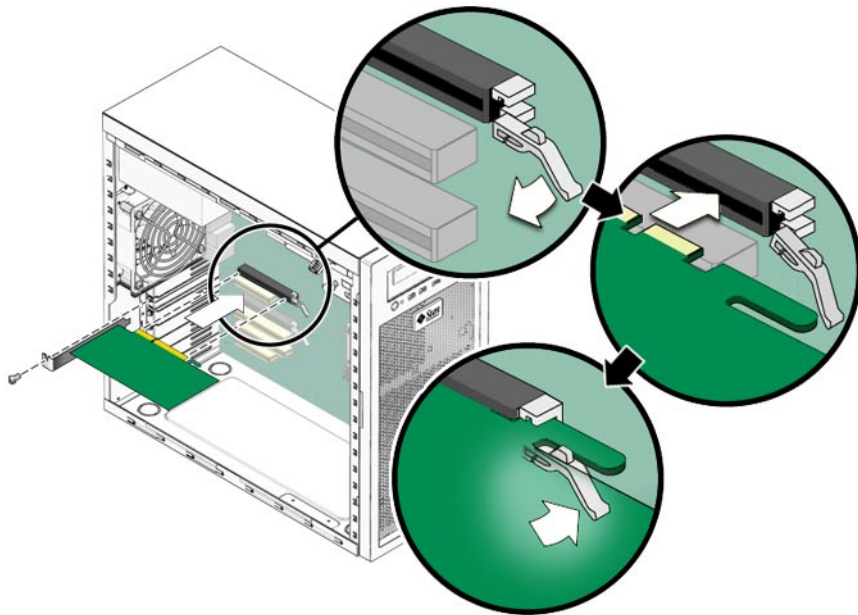

FIGURE 3–19 Installing a PCIe Graphics Card
- 7 Pull gently upward on the card while pressing the release latch (see Figure 3–18).
- 6 Position the PCIe2 x16 card in the selected slot. Ensure that the notch in the connector on the motherboard is aligned with the notch in the connector of the card and that the notch in the end of the card engages the retainer (see Figure 3–21).